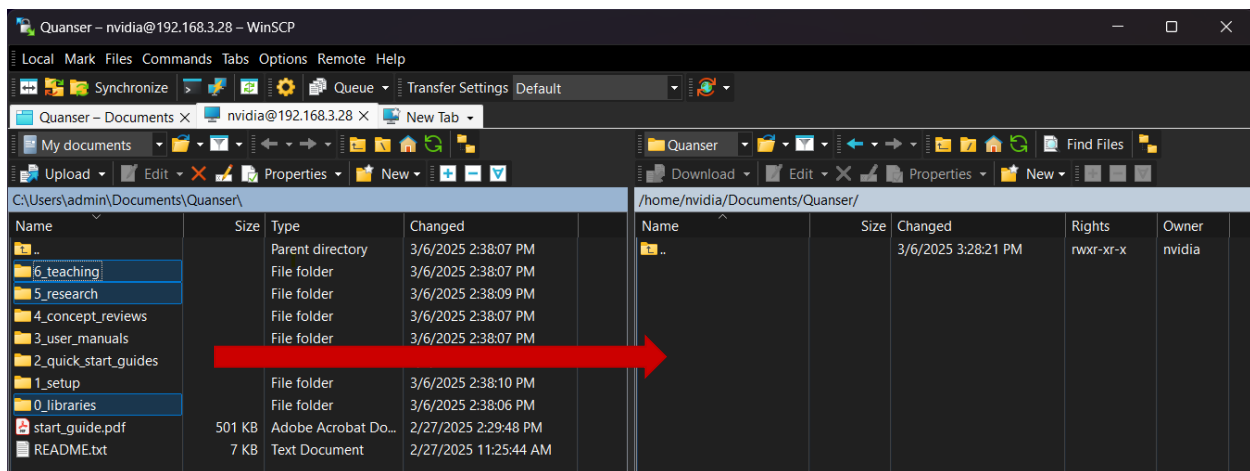

Figure 2. Transferring files to QCar
2. Using WinSCP, on your PC side, navigate to **Documents/Quanser**. On the QCar 2 side, navigate to your new *Quanser* folder. Your WinSCP window should look like figure 2. From your PC side, copy/drag the **o_libraries**, **5_research** and **6_teaching** folders over to your new Quanser folder in the QCar2.